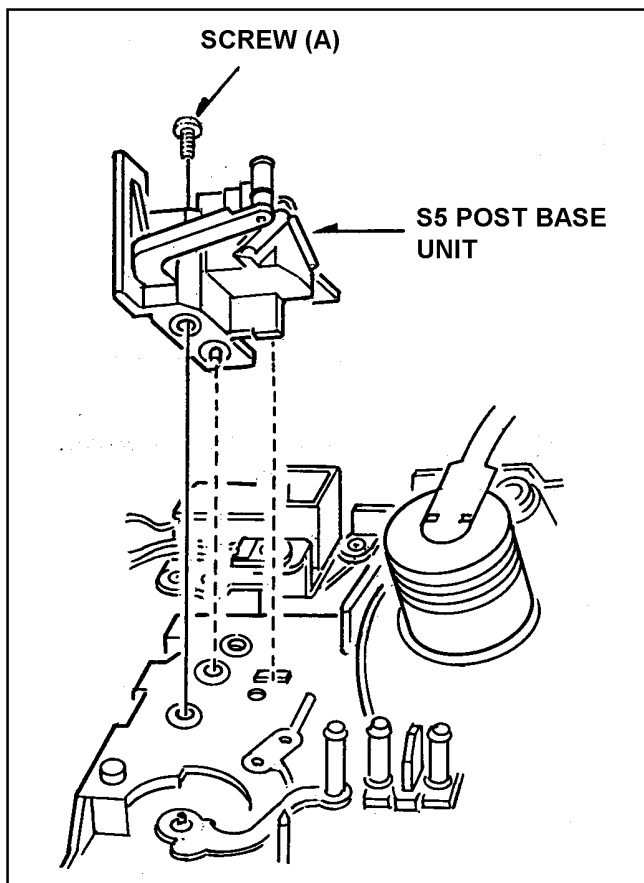

Figure 5-14
1. Unscrew the screw (A) and remove the S5 Post Base Unit as shown in Figure 5-14.
Note: Be careful the S5 Post Base Unit is installed to mech. chassis as shown in Figure 5-14.